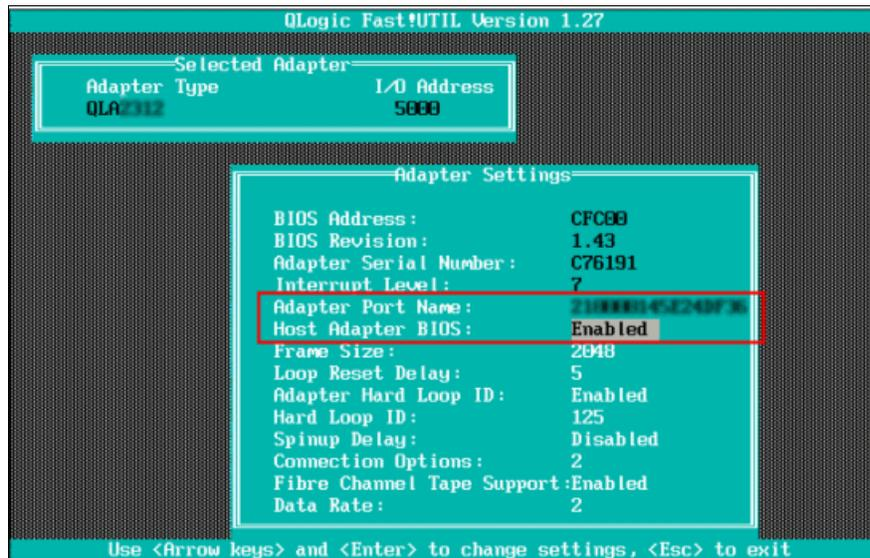

Figure 10-46 Host Adapter Settings
- Select **Configuration Settings** → **Host Adapter Settings** to bring up the Adapter Setting window, as shown in Figure 10-46.